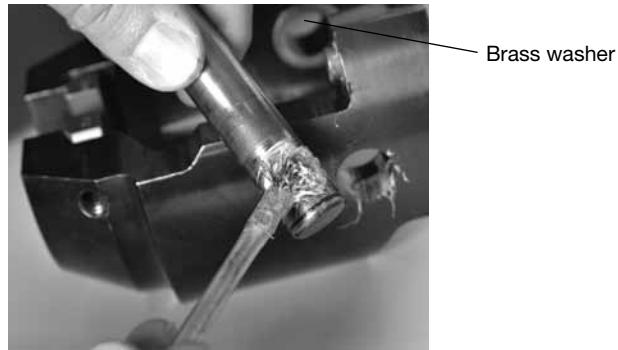

*Fig. 20 Removing Clips from Retainer Shaft*
1. Remove the clip from left end of the retainer shaft. Fig. 20.